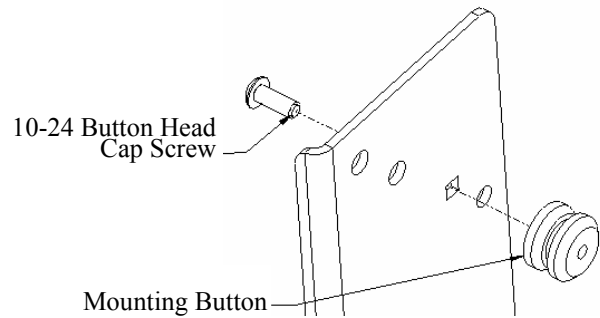
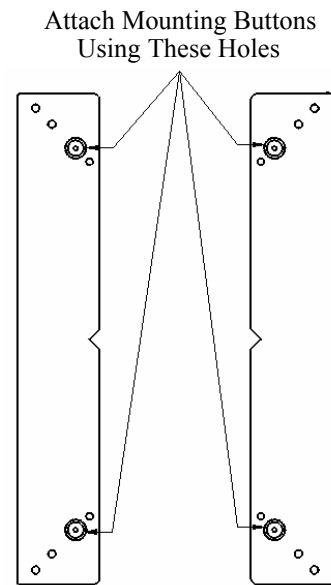

Figure 3. Mounting Button Attachment
Figure 4. Mounting Button Location
1. Using a 10-24 button head cap screw inserted from the backside of the bracket (see Figure 3), secure the mounting button with the chamfered hole of mounting button (larger surface) facing the bracket (see Figure 4).